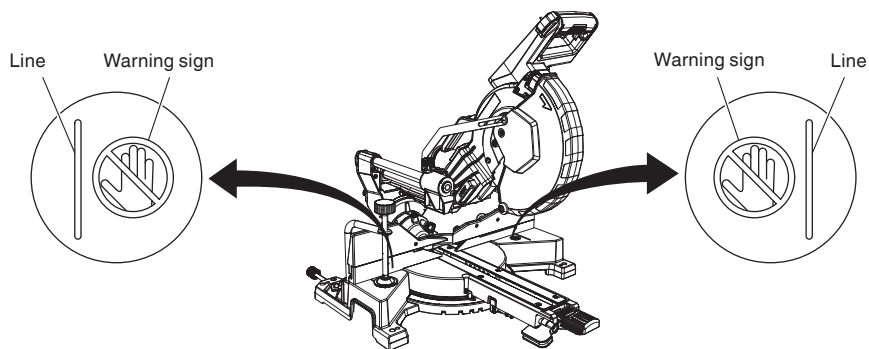

Fig. 23
* Never place your limbs inside of the line next to warning sign while the tool is being operated. This may cause hazardous conditions (see Fig. 23).